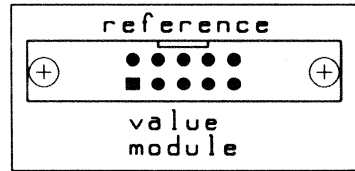

Figure 5-4. The **HEADER** module.
6. Select **HEADER** in the **Module Name** list box, then select **OK**. The module displays in the library editor, as shown in figure 5-4.